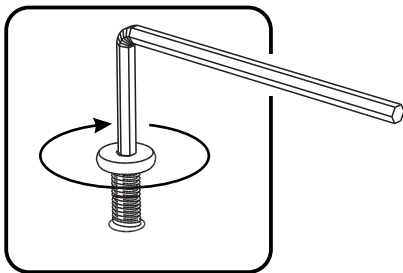

Figure 1
Attach Stretchers (D) to Side (B) with Head Cap Bolts, tightening bolts only halfway. (See Figure 1)